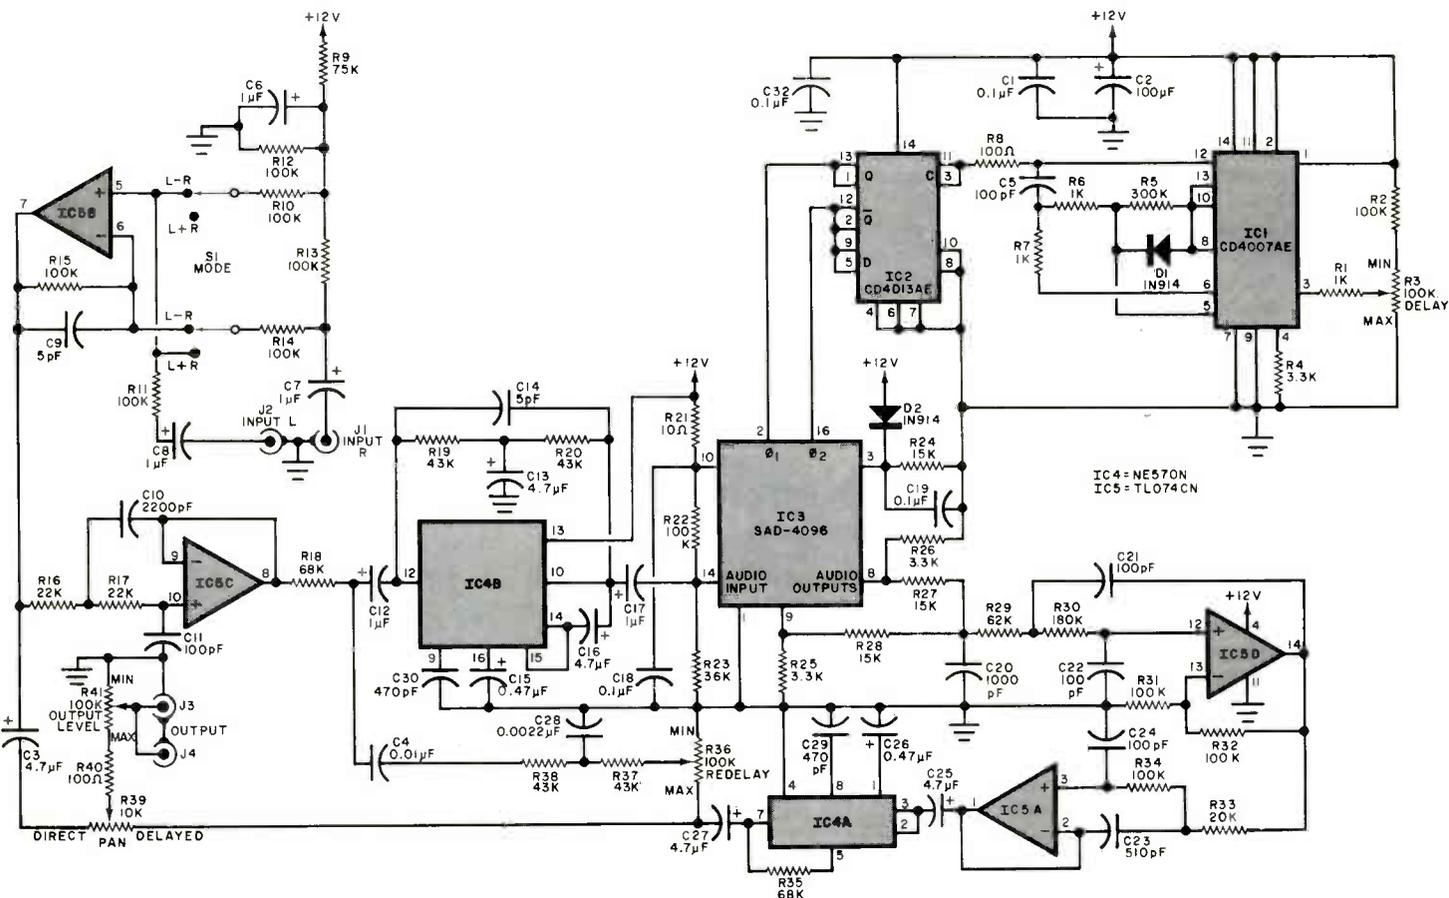

Fig. 2. Schematic diagram of the delay line. Two audio input channels are combined by IC5C into a single channel which is delayed by IC3.
**About the Circuit.** The Analog Audio Delay Line appears in block-diagram form in Fig. 1 and schematically in Fig. 2. The block diagram shows the principal function stages of the project.